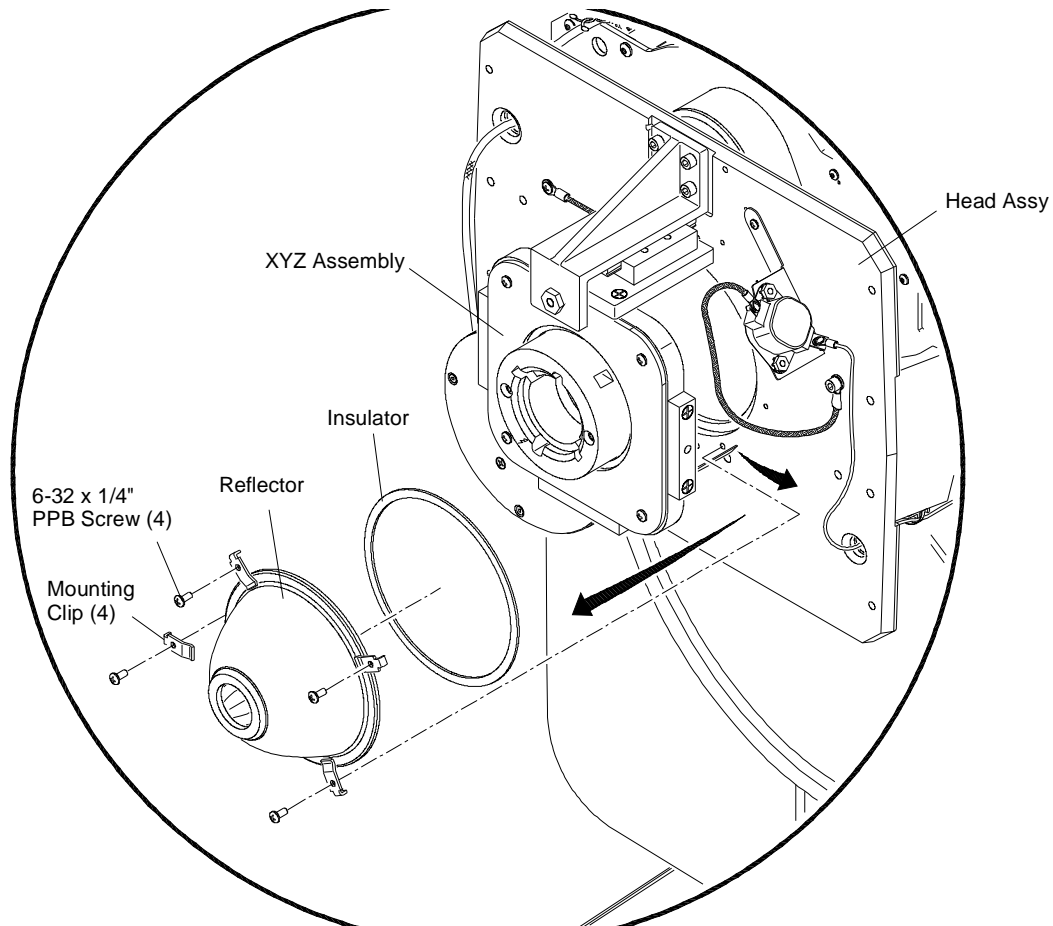

Figure 3-31: Removing Reflector
- Step 3. At Reflector, loosen four 6-32 x 1/4" PPB screws to free mounting clips (**Figure 3-31**).